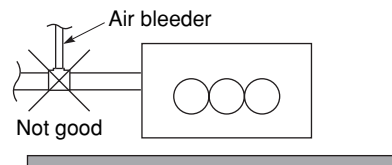

Fig. 3-65
- Do not install an air bleeder tube as this may cause water to spray from the drain pipe outlet. (Fig. 3-65)